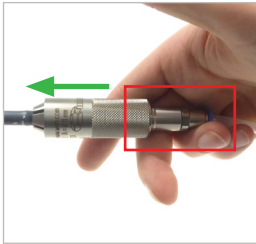

Figure 8
- Hold the connector at the lower part (Pos. 2) and at the hose with one hand (see area outlined in red) and press against the test piece (green arrow, Figure 8). Then pull the sliding sleeve (Pos. 1) backwards.